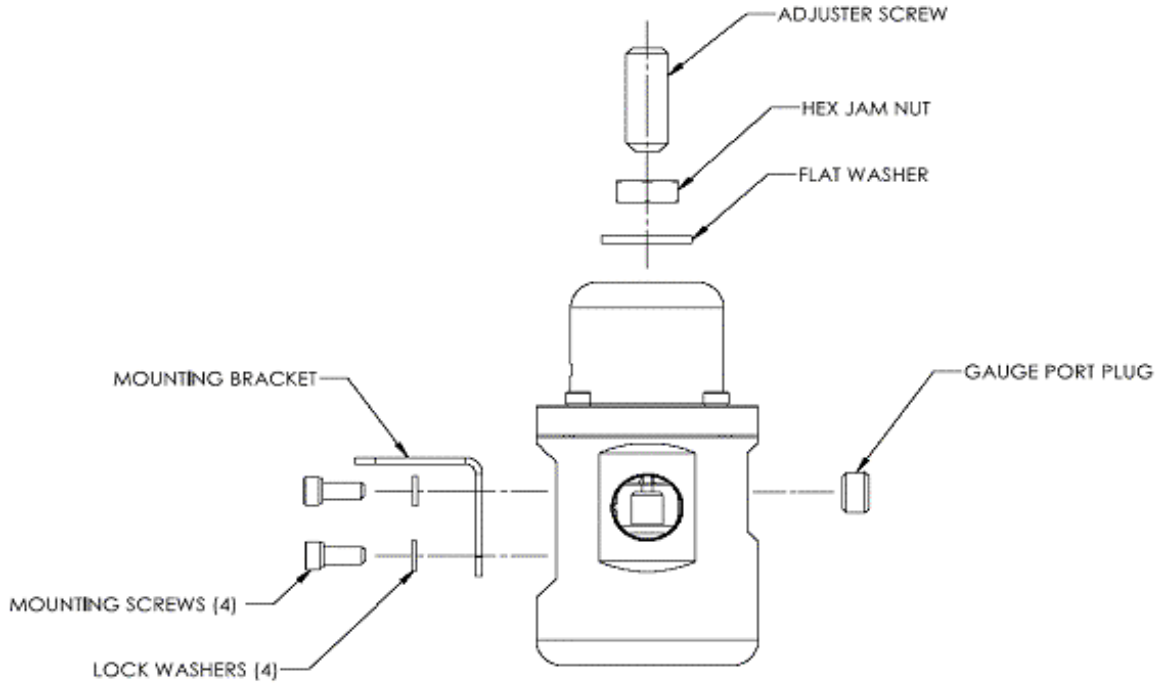

Figure 1 – SX Performance™ Model 15412 Fuel Pressure Regulator Assy.
1. Assemble the fuel pressure regulator as shown in Figure 1. Leave the adjuster screw jam nut loose at this time.